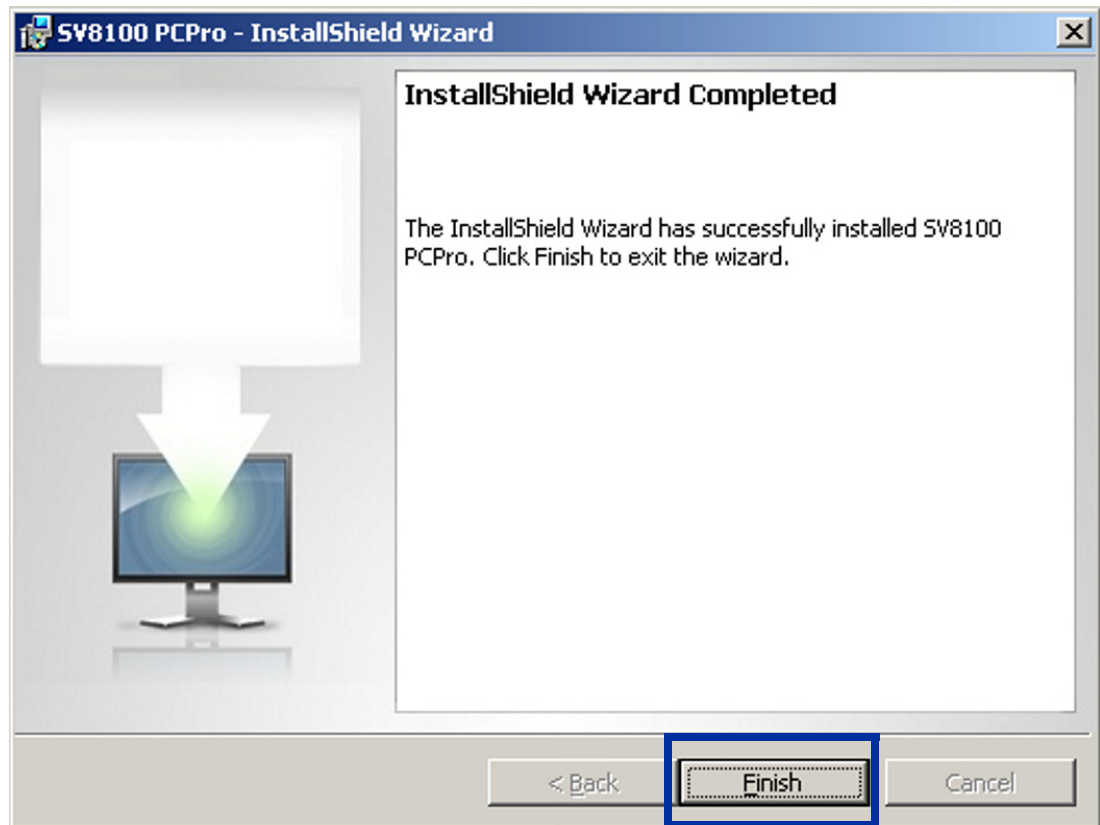

Figure 2-6 InstallShield Wizard Finish Installation
6. When the installation is completed, Figure 2-6 InstallShield Wizard Finish Installation is displayed. Click **Finish**.